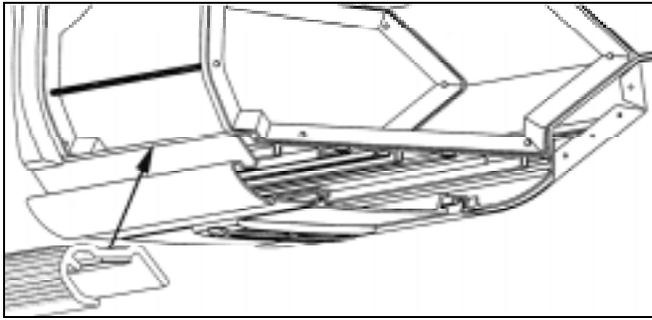

Figure 1: Door-less parcel racks and the new moulding.
1. Locate the bottom of the door-less parcel racks and the location of the new moulding to be installed (figure 1). Using alcohol, clean the area of each door-less parcel racks where the new moulding will be installed.